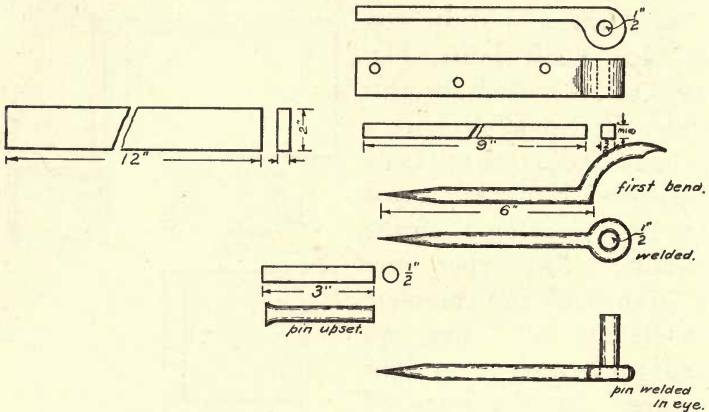

FIG. 214.—HINGE FOR FARM GATE.
1. For each hinge of the farm gate three pieces of iron are needed. The dimensions of each piece are given in Fig. 214. Bend the end of each flat piece around, making a lap weld so as to leave a  $\frac{1}{2}$ " hole at